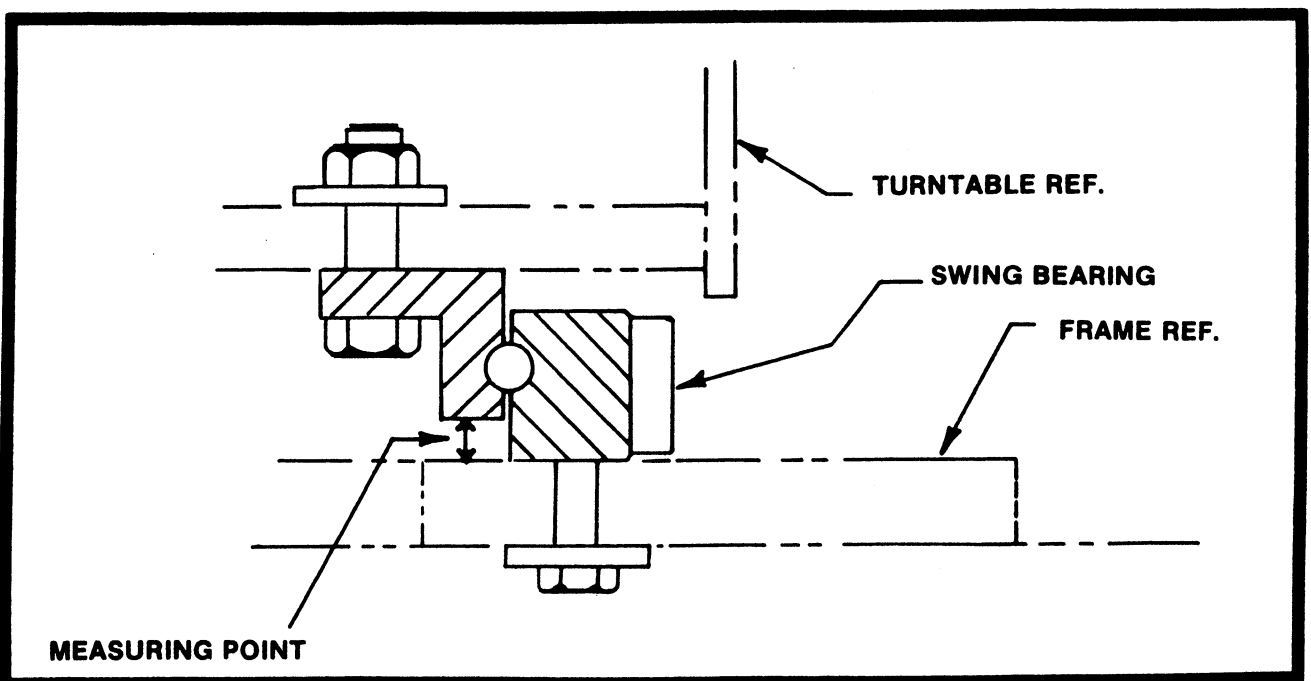

Figure 2-12. Swing Bearing Tolerance Measuring Point.
- (1). From the underside of the machine, at rear center, with the boom fully elevated and fully retracted (See Figure 2-11a), using a magnetic base dial indicator, measure and record the distance between the swing bearing and frame. (See Figure 2-12.)
- (2). At the same point, with the boom at horizontal and fully extended (See Figure 2-11b), using a magnetic base dial indicator, measure and record the distance between the swing bearing and frame. (See Figure 2-12.)
- (3). If you determine a difference greater than .064" (1.63 mm) the swing bearing needs replacing.